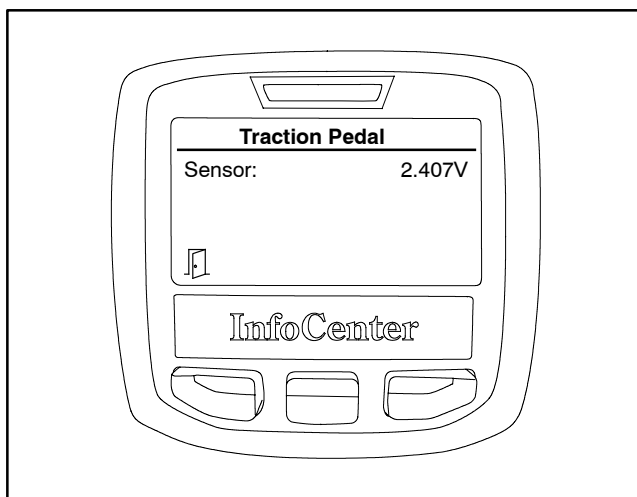

Figure 21
3. Use the InfoCenter Display Diagnostics menu (see InfoCenter Display in this chapter) to obtain and select the Traction Pedal menu item. Choose Inputs and the InfoCenter display should identify sensor voltage (Fig. 21).